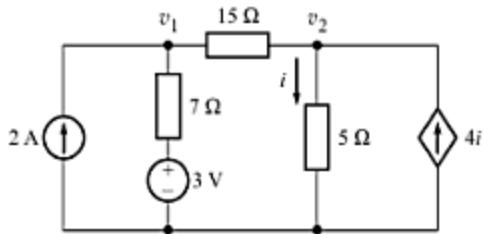

Fig. A-121
- A-88. Use superposition principle to obtain the voltage across each current source in the circuit of Fig. A-121. [Ans.  $v_1 = 11.147$  V;  $v_2 = -1.394$  V]